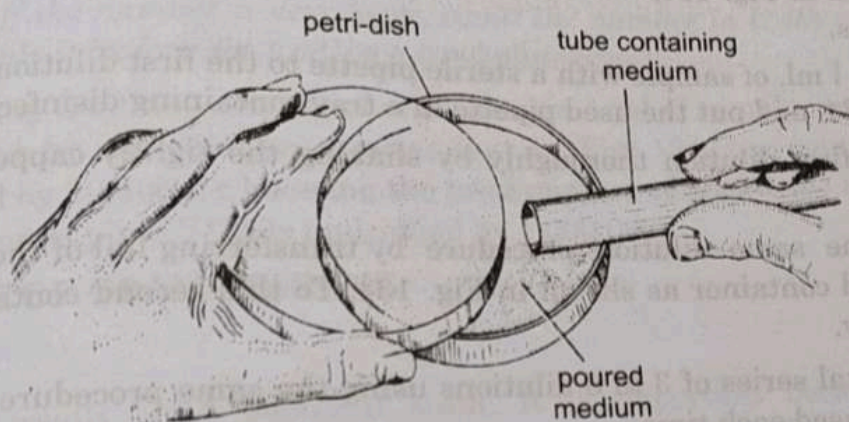

Fig. 133. Technique for pouring a petri-dish.
2. Raise one edge of the cover of petri-dish and pour medium into the lower plate as shown in Fig. 133.